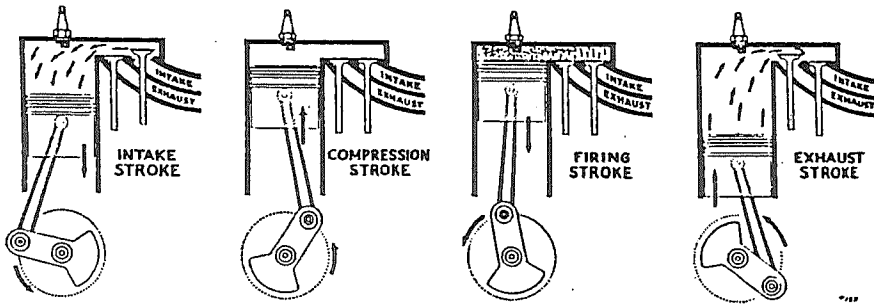

Fig. 5.
34. In our 4-cycle motor the events are indicated in Fig. 5. On the intake stroke (illustration at the left), we have the piston going down, producing a vacuum in the cylinder, thereby drawing fuel up through the carburetor so that the space above the piston becomes filled with combustible gas. During this stroke the intake valve is open. In the next illustration we find the piston coming up on the compression stroke with both valves closed. At the top of the compression stroke a spark occurs at the spark plug, firing the gas. This produces an explosion above the piston which forces it down on the firing stroke. Both valves are closed on the firing stroke. On the next upstroke of the piston, the exhaust stroke, with the exhaust valve open, the burned gas is driven out.